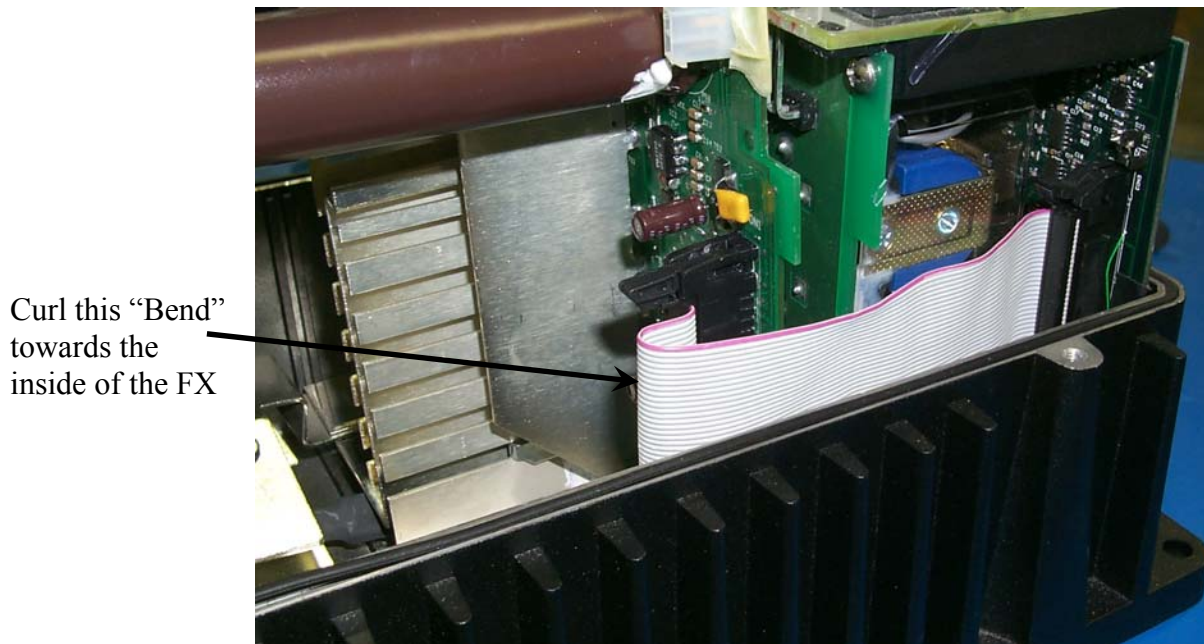

Figure 5
**RIBBON CABLE:** Curl the “Bend” in the ribbon cable towards the inside of the FX (see Figure 5). This will pull the ribbon cable inward and then it will be less likely to be pinched between the chassis and the top cover when you put on the top cover. This is a major source of problems, pinching the ribbon cable will destroy the boards! Make sure the ribbon cable is pushed all the way into its connectors and then tape the ribbon cable to the clear relay if bending it doesn't pull it far enough inwards.